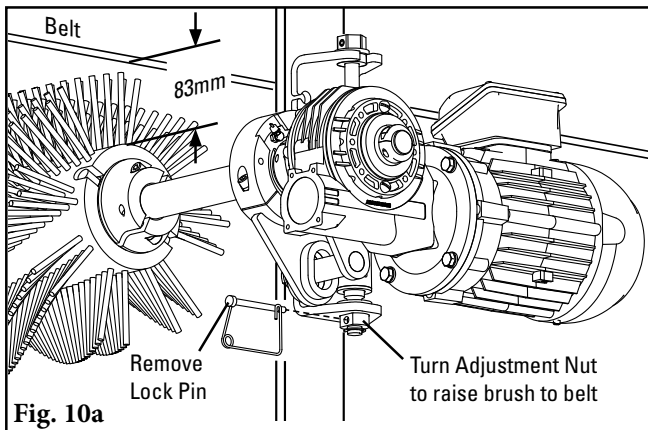
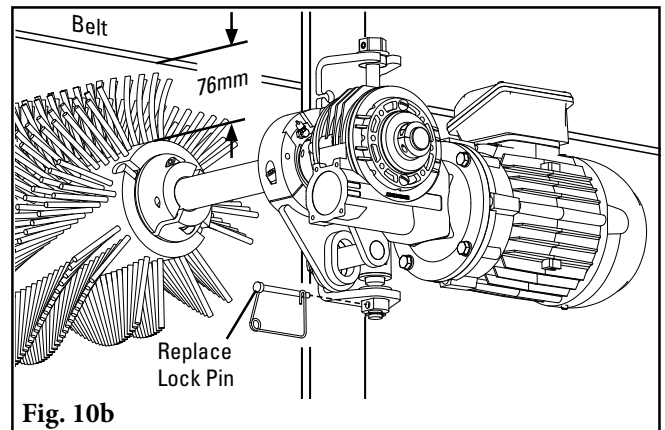

Fig. 10a
Fig. 10b
10. **Set brush height.** Remove lock pin from both adjustment brackets (Fig. 10a). Turn adjustment nuts to raise brush until brush bristles just touch belt surface. The brush hub should now be 83mm below the bottom of the belt. Once bristles are touching belt, turn adjustment nut an additional 1-1/2 turns while ensuring even adjustment on both sides. The bristles should be compressed against the belt and brush hub should now be 76mm below the bottom of the belt (Fig. 10b). Place lock pins back into adjusting brackets.